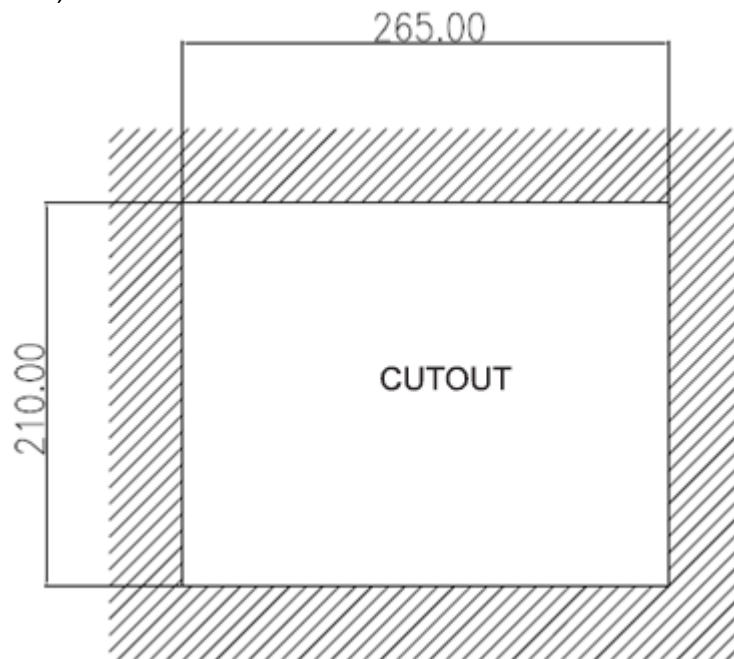

Figure 2.26 PPC-3100S cutout dimensions
- Cut out a panel corresponding to the size shown in Figures 2.26, 2.27, and 2.28. (unit: mm).